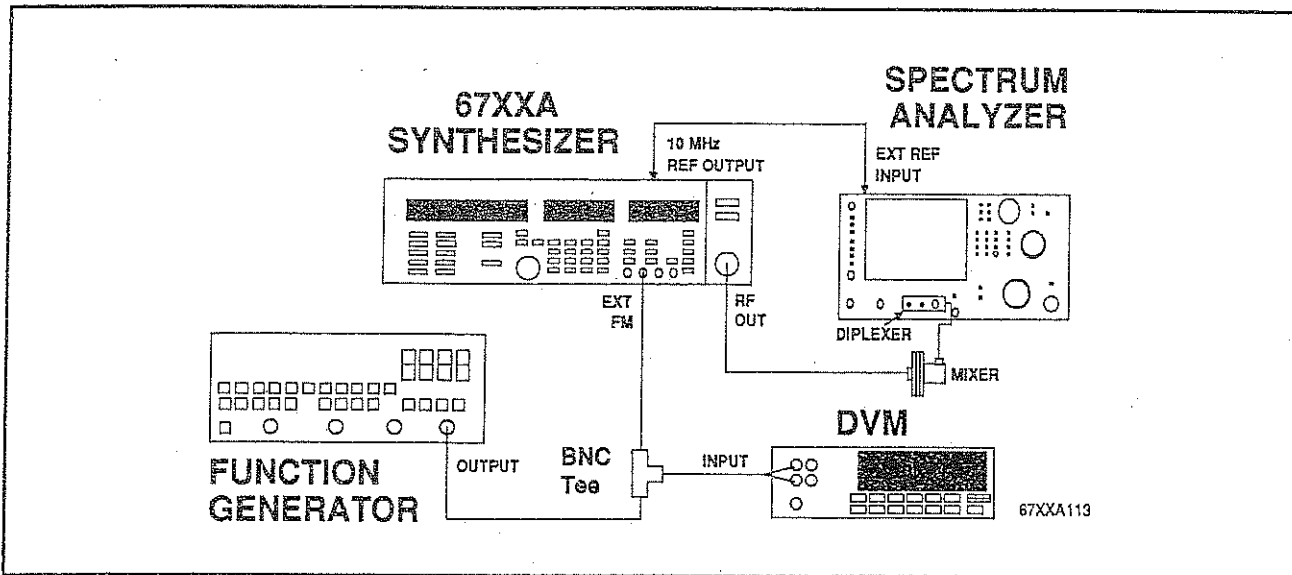

Figure 3-16. Test Equipment Setup for FM Sensitivity Calibration (20 to 40 GHz)
1. Connect the equipment as shown in Figure 3-16 (see following page).